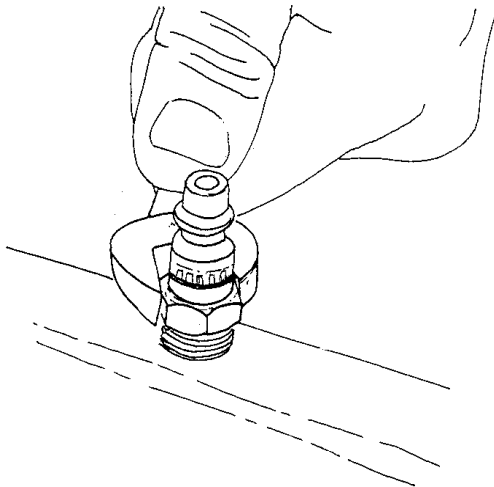
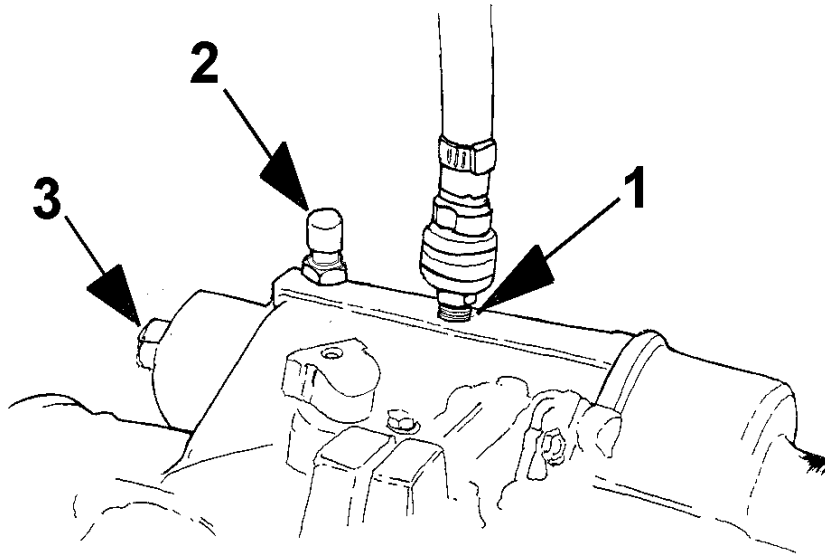

Figure 1 Install Air Line Fitting
Figure 2 Attach Regulated Shop Air (100 PSI Max.)
2. Install an air line fitting into the high range port (Figure 1 and Figure 2) and apply 100 PSI max. regulated shop air. Rotate the input shaft to lock the range gear.
38. Disconnect the air line (Figure 2) and remove the air fitting from the high range port. Reconnect the high range line to the high range port.